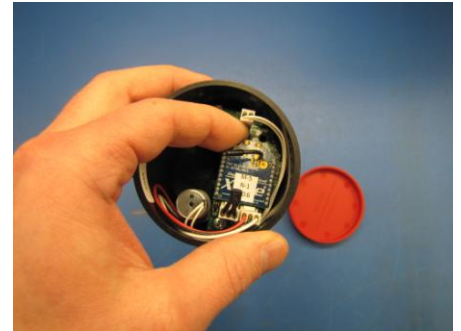

Figure 9
9. As depicted in Figure 9, lift gently on the underside of the front edge of the chip near the antenna until the front edge lifts slightly from the circuit board.